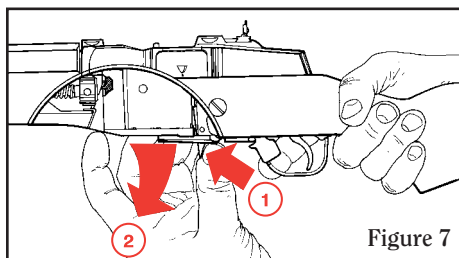

Figure 7
1. With the rifle pointing in a safe direction, safety “ON”, remove the magazine by pushing catch forward to release magazine, while drawing magazine down and forward (See Fig. 7).